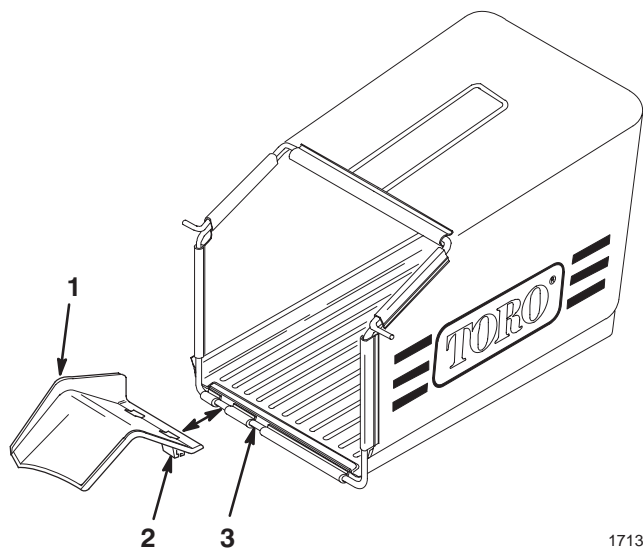

Figure 4
1. Snap three (3) tabs on grass bag ramp onto grass bag frame (Fig. 4 & 5).